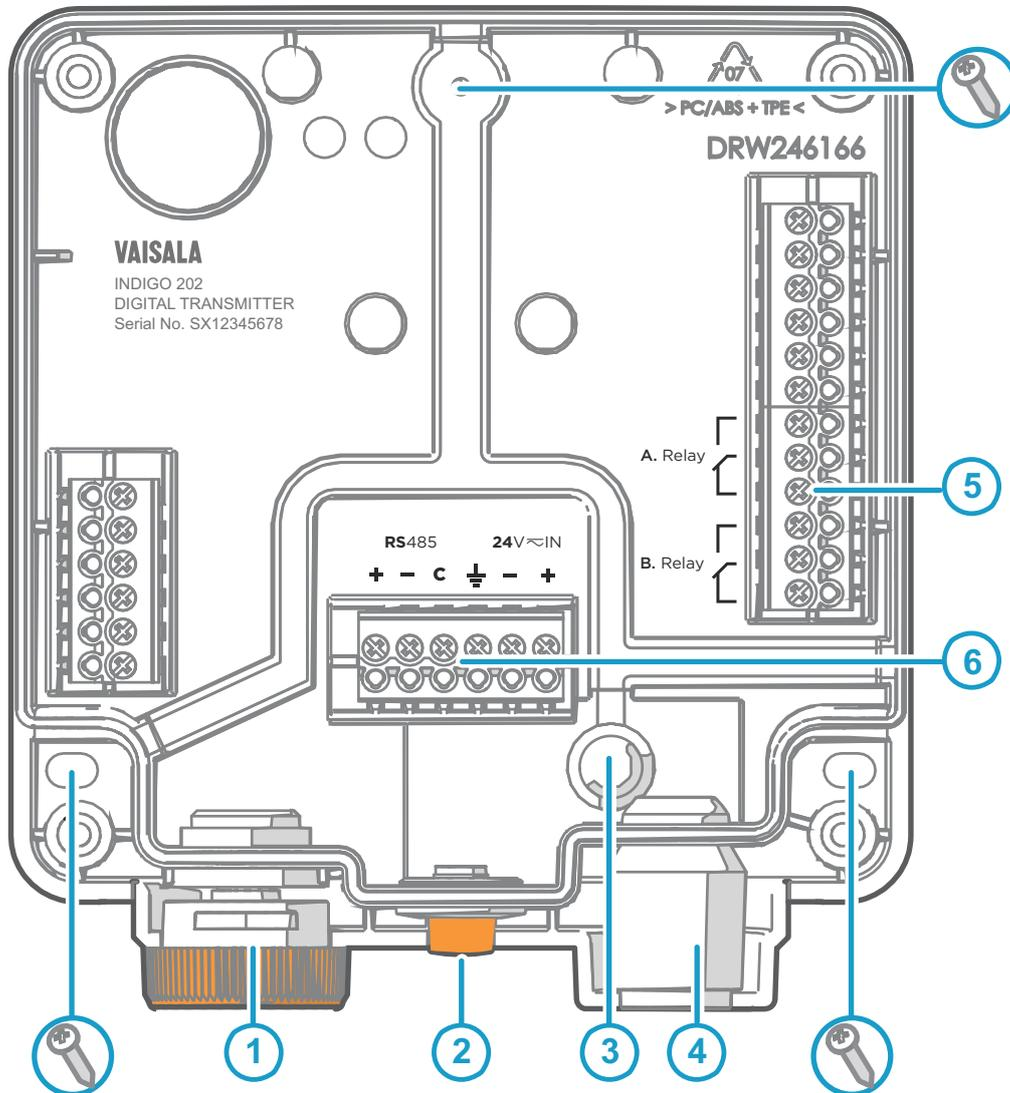

Figure 8 Indigo 202 Transmitter Base Main Parts and Screw Positions
4. Place the transmitter base on the installation surface and mount it with 3 screws. See the screw positions in Figure 8 \(page 16\).